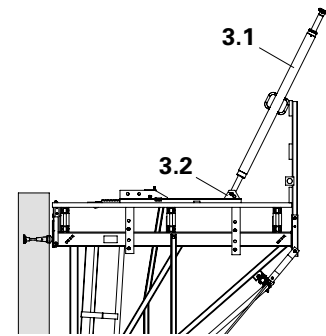

Fig. B2.06
2. Fix Adjustable Brace 164-224 (3.1) to Carriage using bolts and cotter pins (3.2). Spindle out to the approximate length and attach to ladder cage to prevent tipping over. (Fig. B2.06)